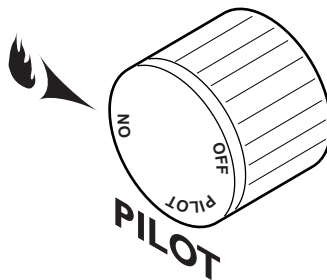

Figure 31 - On Position
Depress and turn the knob counterclockwise to the “ON” position. See *Figure 31*. It will take less than four (4) seconds for the burner to ignite.